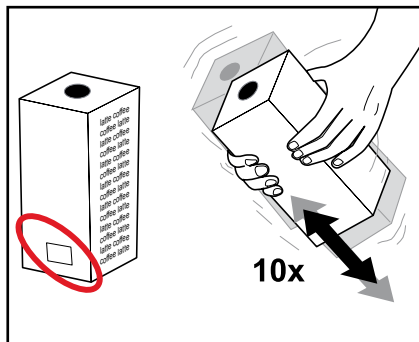

Fig. 18
Read the instructions on the product pack. Never use a damaged product pack. Do not use a product pack if the „Best before“ date has expired. (Fig. 18)
3. Shake the product pack at least 10 times. (Fig. 18)